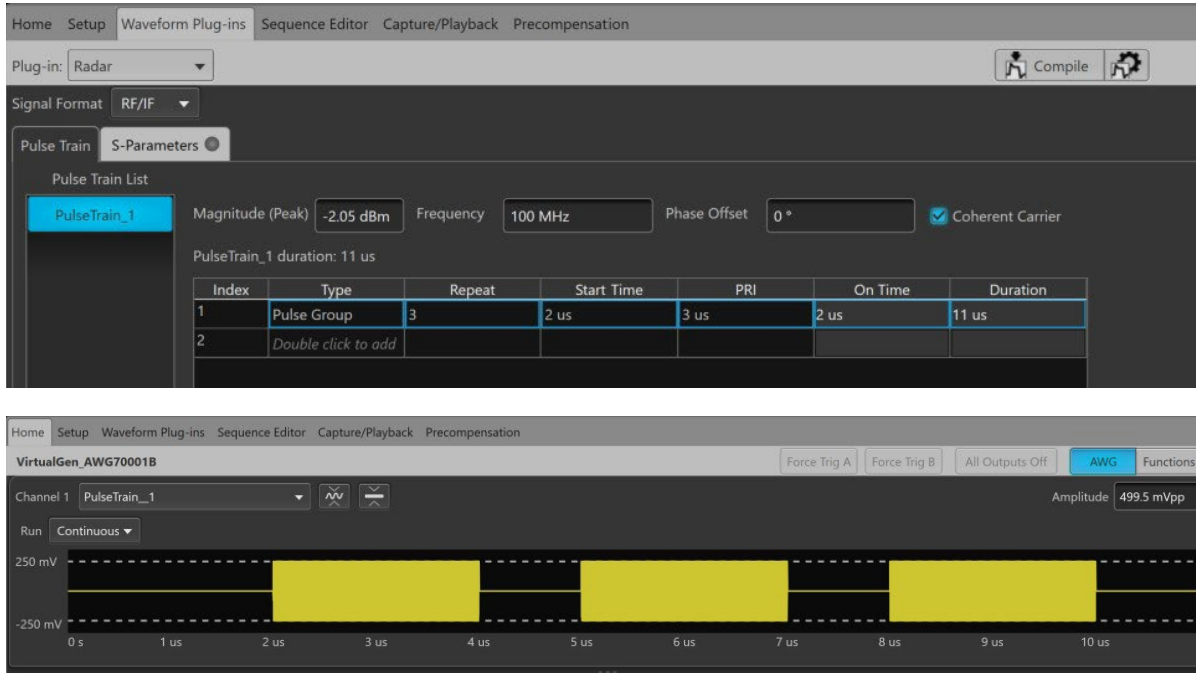

Figure 13: Pulse Group with 2  $\mu$ s start time inserted before 2  $\mu$ s wide pulse with 3  $\mu$ s PRI and a repeat count of three.
3. In that index (row in the table), set the Repeat count, Start Time, and PRI. The Start Time of a Pulse Group is dead time inserted only before the first pulse in the waveform as shown in Figure 13. You can also change the PRI or PRF using the Pulse Envelope tab settings at the bottom.